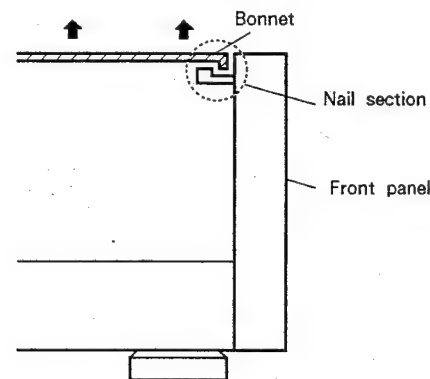

Fig. 2-1
- ① Remove six screws to the bonnet.
- ② Remove the bonnet by pulling up it in the vertically direction of arrow (Fig. 2-1).
Note: If you pull up the rear base of the bonnet to remove it as in the conventional manner, the hooks shown in Fig. 2-1 may be caught and the hooks on the front panel side may be deformed.